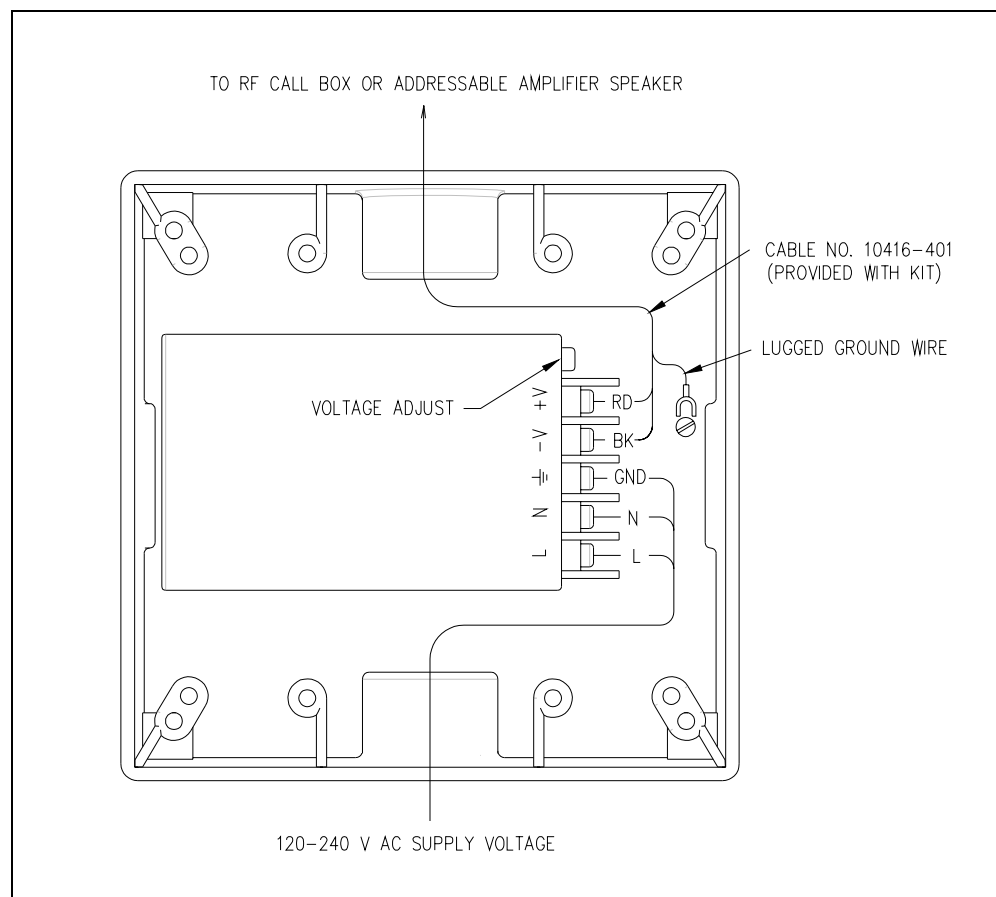

Figure 2. Power Supply Wiring Connections
4. Install the power supply bracket and power supply in conduit box according to Figure 2.
6. Install the power supply bracket and power supply in the conduit box according to Figure 2.
To properly charge the backup battery (if required), the 40404-060 power supply (included with this kit) must be set for 15.0 V dc output. This output can be adjusted at the voltage adjustment potentiometer labeled ADJ. Refer to Figure 2 for wire connections.